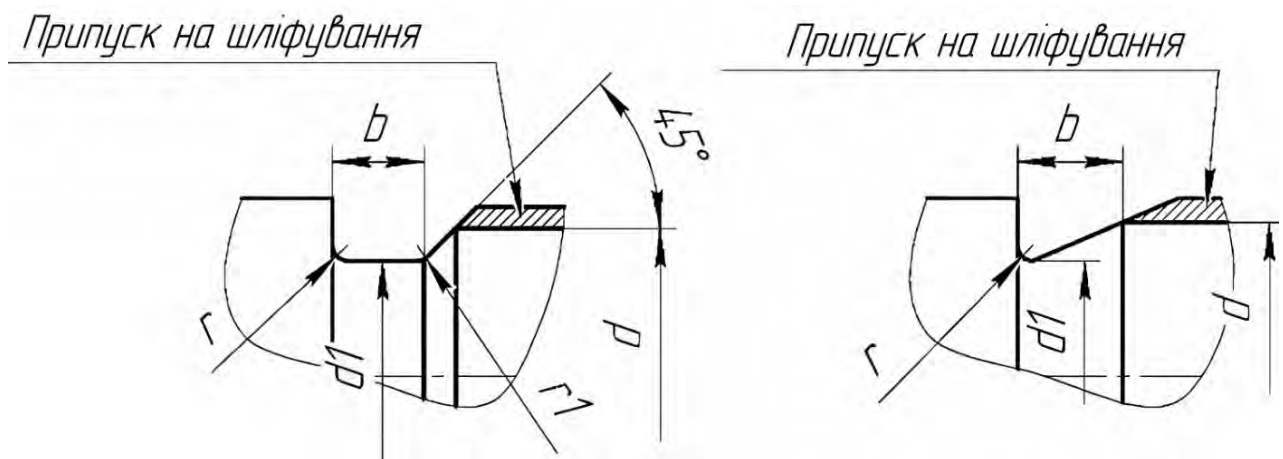

Figure 16 – Drawings with designations of the main dimensions of the grooves (to Table 2)
- If the drawing contains roundings, they should be made according to the radii r and r_1 (see Fig. 16, 17 and Table 2).